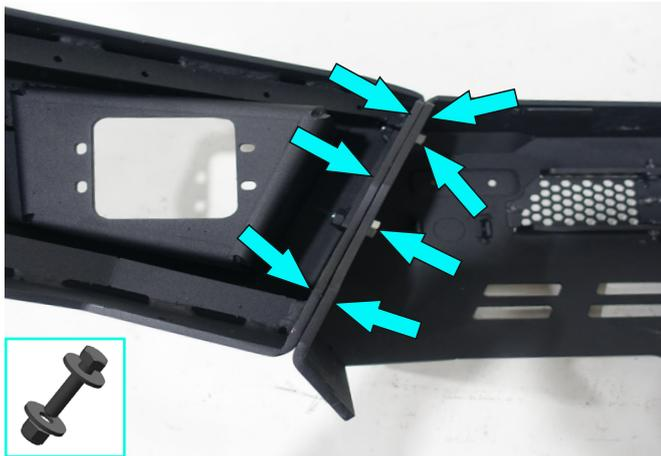

Fig.44
44. Assemble bumper body and bumper end caps (item 6, 12, 13) fix it using insert nut M10 with 2 nuts (item 15), bolts M10x30, nuts M10, washers 10 (item F, Q, K) (fig.44).